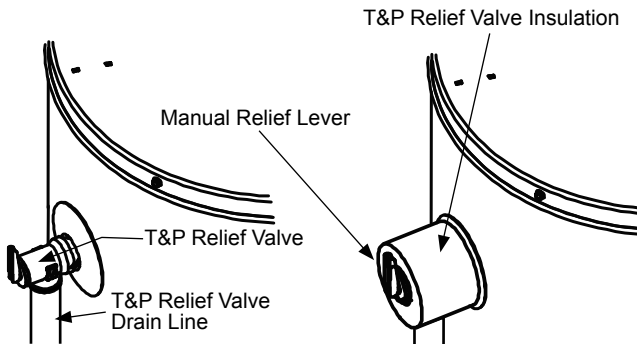

FIGURE 25.
1. Locate the temperature and pressure relief valve on the water heater (also known as a T&P relief valve). See Figure 25.
3. Spread the slit open and fit the insulation over the T&P relief valve. See Figure 25. Apply gentle pressure to the insulation
to ensure that it is fully seated on the T&P Relief Valve. Once seated, secure the insulation with duct tape, electrical tape, or equivalent. **IMPORTANT:** The insulation and tape must not block the discharge opening or hinder access to the manual relief lever (Figure 25). Ensure a discharge pipe is installed into the T&P valve discharge opening per the instructions in this manual.